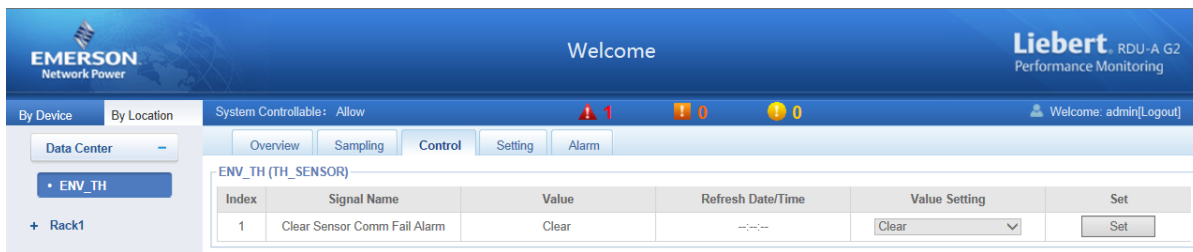

Figure 3-23 Control signals
Clicking the **Control** tab can enter the control page, which displays control signals of selected device, as shown in Figure 3-23.
2. For the name of **Control** signals (except ENV-TH and ENV-4DI), you can click the corresponding signal name for modifying or restoring, as shown in Figure 3-23.